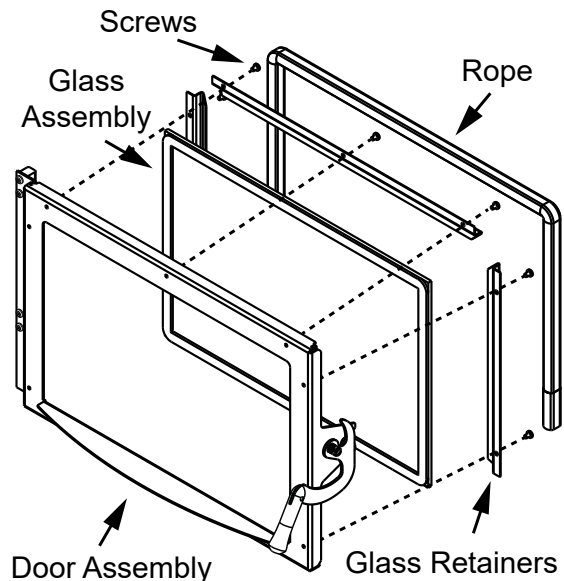

**Figure 27.1**
2. The wire leads to the igniter are connected to the wire harness with 1/4 inch (6mm) male / female spade connectors. These wires will pull forward approximately 4 to 5 inches (102mm to 127mm) through the grommet at the back of the ash drawer chamber. Disconnect the spade connections and remove the igniter from the chamber. Loosen the thumb screw and slide igniter out (**Figure 27.1**).